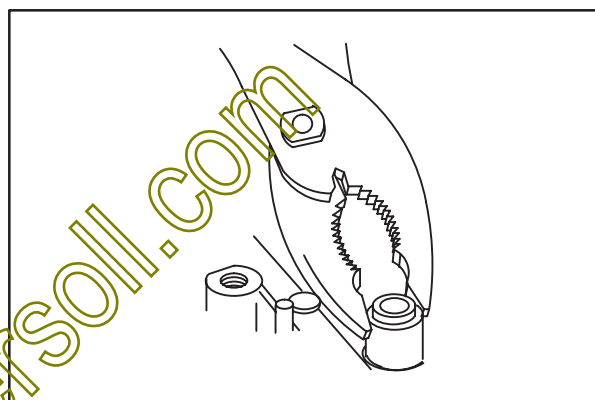

Fig. 8
6. Remove and discard valve stem seals, **Fig. 8**.